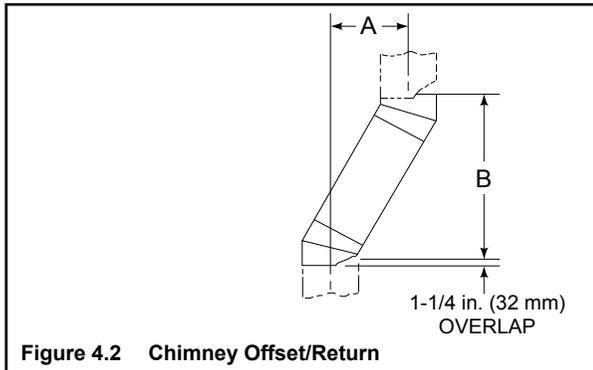

Figure 4.2 Chimney Offset/Return
- Measure the shift needed to avoid the overhead obstruction. Refer to dimension A in Figure 4.2.
Your "A" dimension from Figure 4.2 is 14-1/2 in. (368 mm). Using Table 4.3 the dimension closest to, but not less than 14-1/2 in. (368 mm) is 15 3/4 in. (400 mm) using a 30° offset/return.